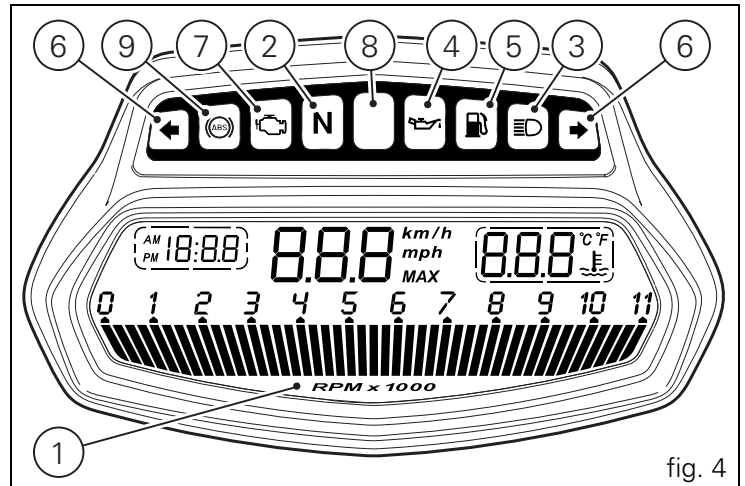

fig. 4
- 8) Limiter light "Over rev" / traction control light "DTC" (RED) (fig. 4):
- 9) ABS LIGHTS^(ABS) (AMBER YELLOW) (fig. 4). This turns on to indicate that ABS is disabled or not functioning.
In the event of a sensor "error", a string of flashing dashes ("---") is shown and the "Engine/vehicle diagnosis - EOBD" light (7, fig. 4) comes on.